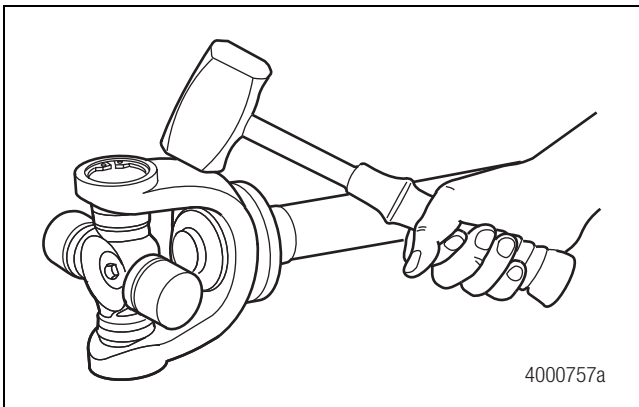

Figure 6.5
- **If the universal joint does not move freely:** Strike the yoke ear with a brass or copper hammer. Figure 6.5.